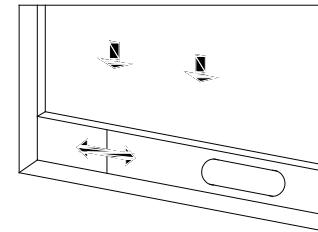
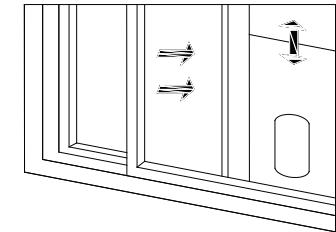

Figure 2
Figure 3
1) Half open the window, and mount the window sealing plate assembly to the window (as shown in Fig.2 and Fig.3). Components can be placed in horizontal and vertical directions.